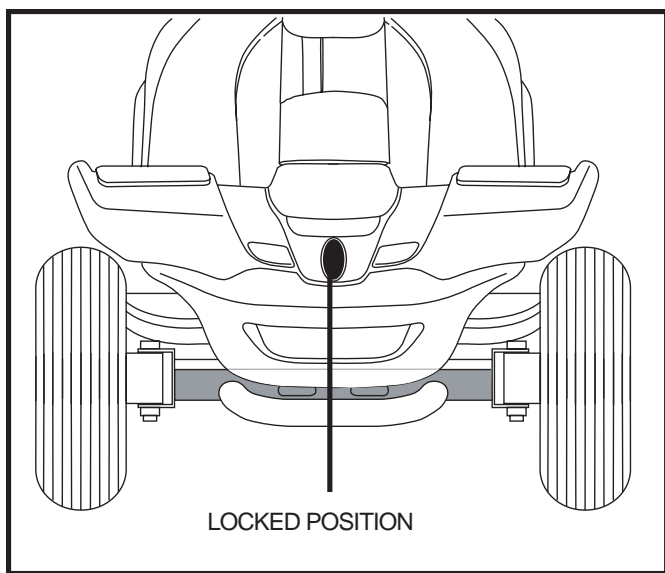

Figure 21. Tiller Lock Knob (Locked)
2. Secure the tiller in the straight ahead position by pushing the tiller lock knob in and turning it clockwise 90°. **See figure 21.** The front wheel must face forward in order to lock the tiller.